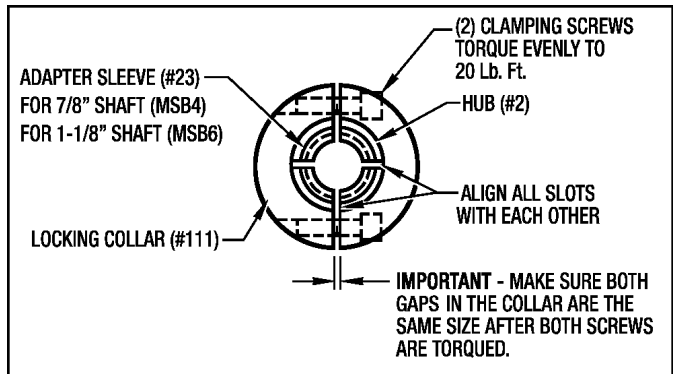

Figure 3.4 - Aligning Quill Clamping Slots (MSB4 & MSB6)
(See Figures 3.4 and 3.5)
1. If you have an Adapter Sleeve (#23), make sure all the clamping slots are aligned with each other as shown in Figure 3.4.
If you don't have the Adapter Sleeve (#23), two of the slots in the Hub (#2) must be aligned with the (2) slots in the Clamping Collar (#111) as shown in *Figure 3.4*.